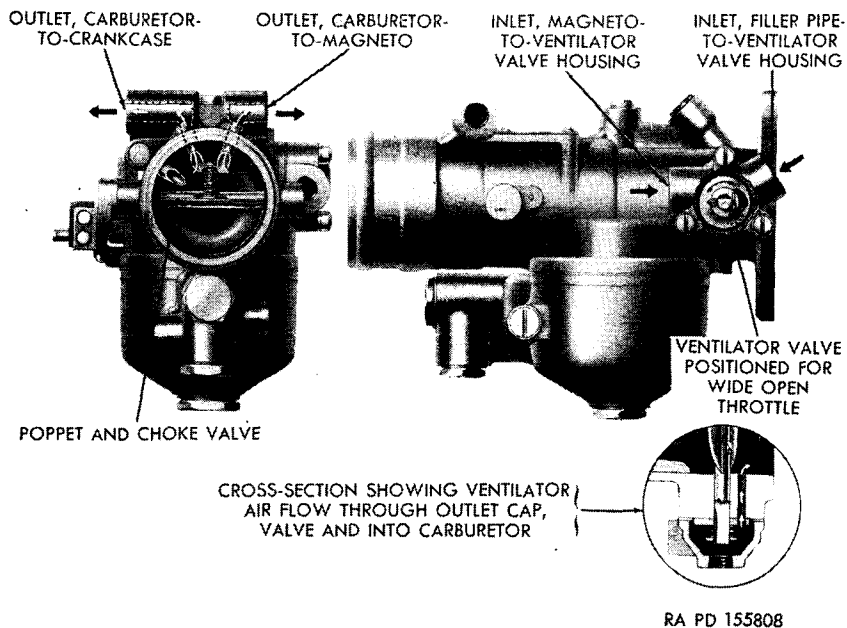

Figure 14. Ventilation system.
- (a) The engine and carburetor are intended to be a complete sealed unit. For this reason, the more common atmospheric crankcase ventilator cannot be used. Forced ventilation is produced by the carburetor to satisfy this need and to secure more efficient ventilation. The ventilation system is designed to remove water and fuel vapors from the crankcase. It also removes some corrosive gases caused by blowby and other sludge-forming vapors which are caused by oil deterioration. Another function of the system is to remove possible combustible vapors from the magneto. This accounts for the two connections at the ventilator valve housing and the two connections at the carburetor body (figs. 14 and 18).